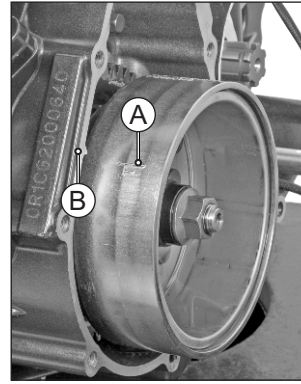

Fig. 3.192A
- Rotate rotor assembly and match the TDC mark (A) on rotor assembly and the mark (B) on crankcase assembly LH. (Fig. 3.192A)